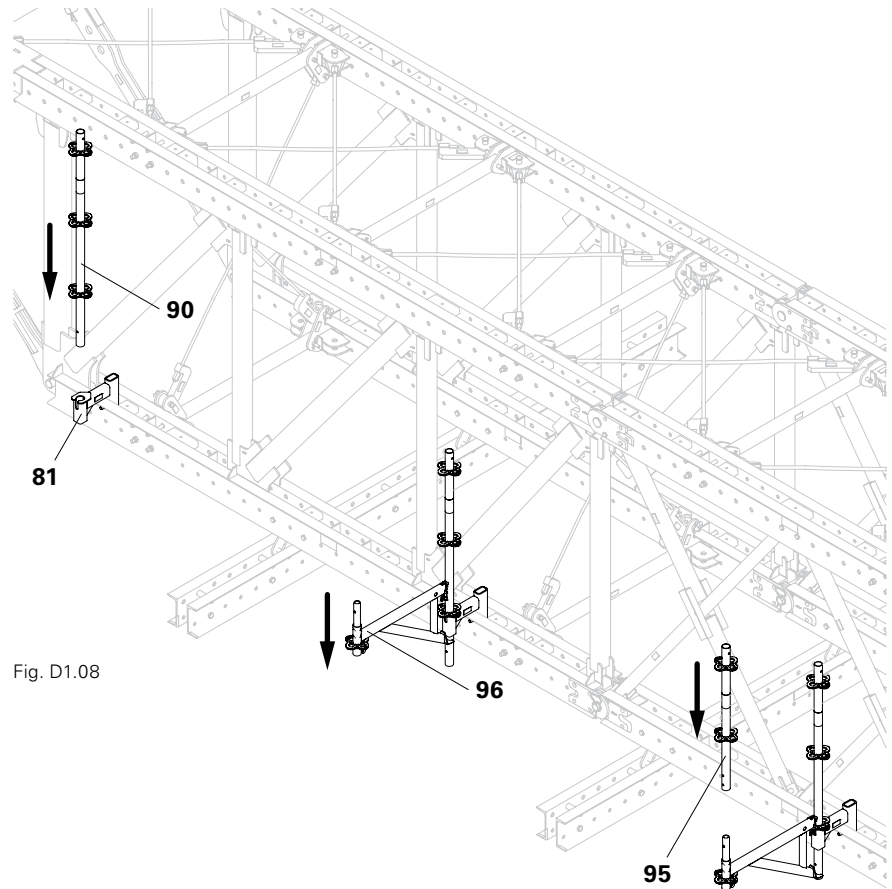

Fig. D1.08
1. Insert the Top Standard (90) with the long tube protrusion into the Bracket Connector (80).
2. Attach Console Bracket (96) to the rosette. The Console Bracket is positioned vertically to the truss package.
3. Attach the Top Standard (95) to the Console Bracket.(Fig. D1.08)